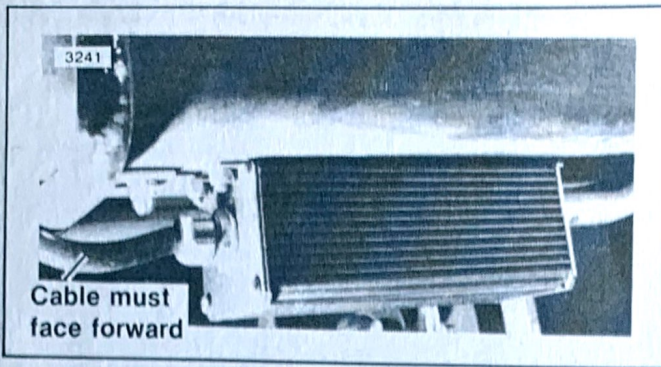

Figure 8-10. Whelen Amplifier Mounting — FXRP
See Figure 8-10. The amplifier is mounted directly to the left saddlebag guard.
1. See Figure 8-10. Install amplifier using bolts, nuts and washers removed from old amplifier.
1. See Figure 8-10. Mount amplifier as shown.